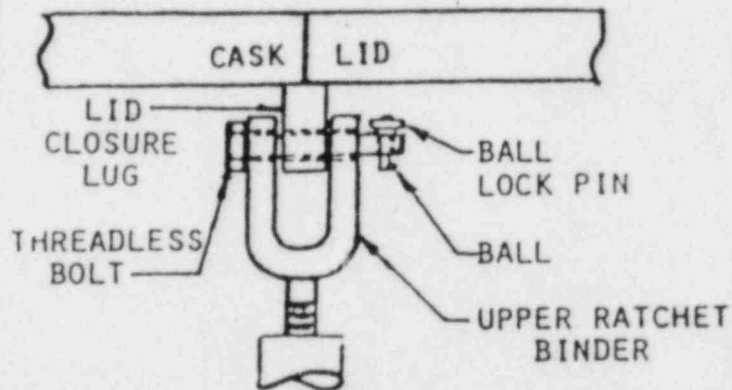

Figure 2
6.3.2.4 Remove the ball-lock pin by depressing the top of the pin and pulling the pin through the hole in the threadless bolt (see Figure 2).
6.3.2.5 Remove the threadless bolt by pulling the bolt through the holes in the upper ratchet binder connector and lid closure lug (see Figure 2).
6.3.7.3 Install the threadless bolt through the upper ratchet binder connector and the lid closure lug (see Figure 2).